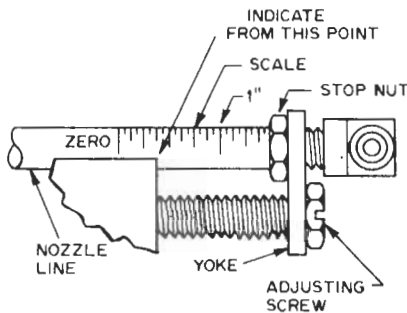

Figure 8. Combustion Head Adjustment.
1. Turn adjusting screw counter clockwise until zero on scale is aligned with rear of housing. ("A" equals zero, see Figure 8.)
2. Now turn adjusting screw clockwise until the 1/8-inch graduation on the scale coincides with rear of housing. Each mark (or line) is 1/16 inch. (See Figure 8.)